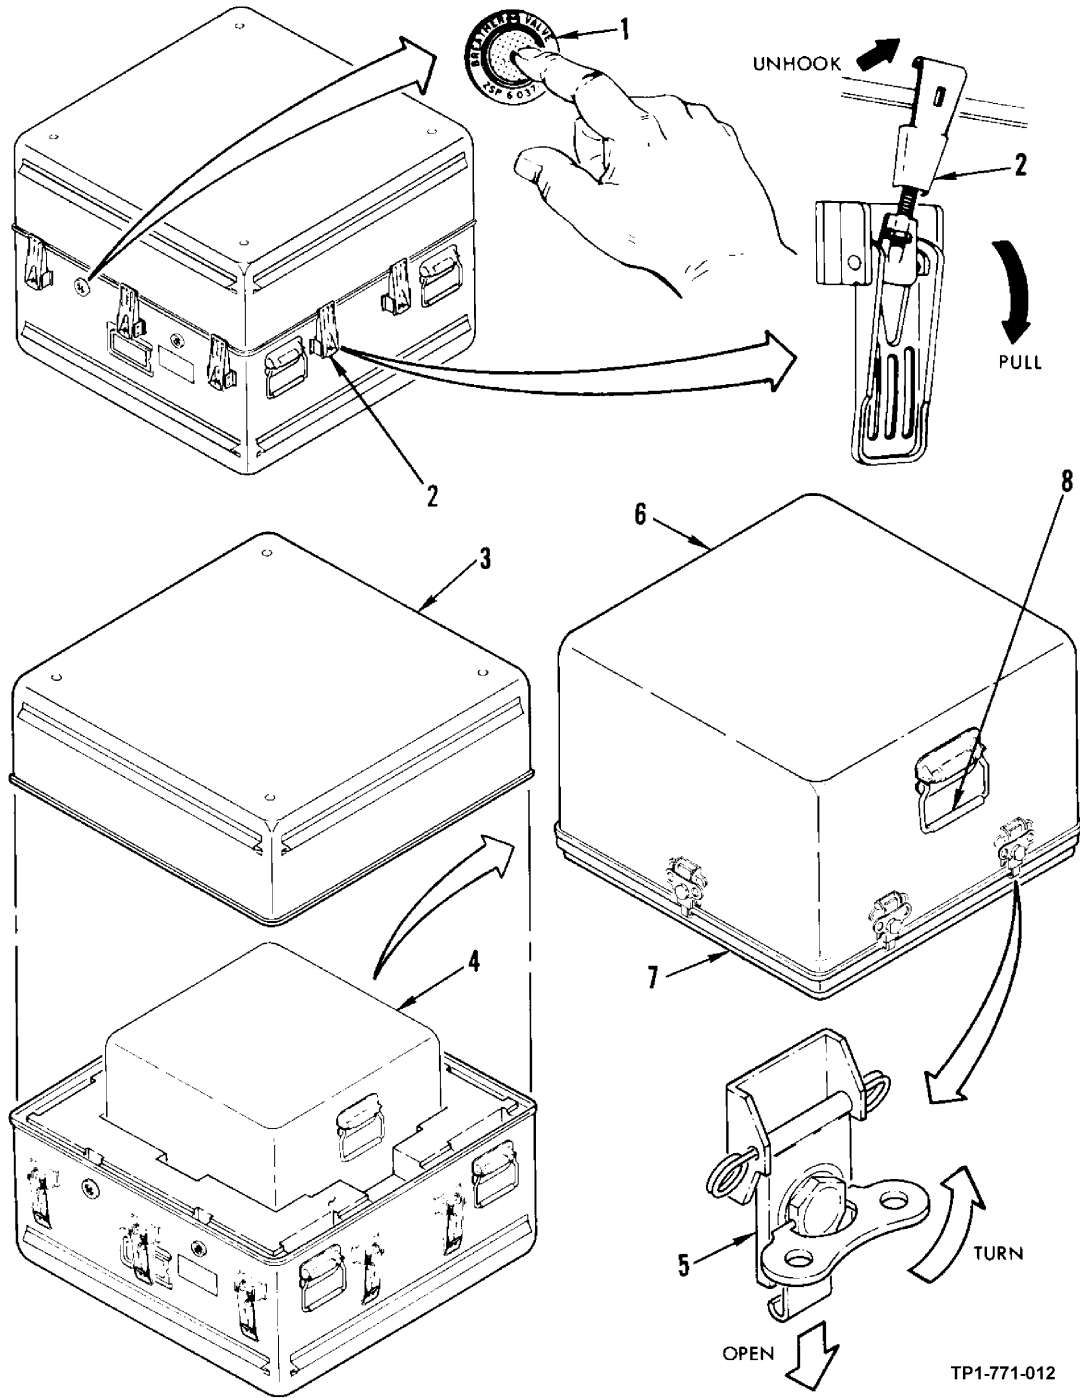

Figure 2-7. Inner Case Removal From Shipping and Storage Container
- (1) Remove inner case assembly from shipping and storage container as follows:
- (a) Press pressure reliefs (1, figure 2-7) on container.
- (b) Release and unhook container latches (2).
- (c) Remove container cover (3) and set aside on clean dry area.
- (d) Remove case assembly (4) from container and place on workbench.
- (2) Release and disengage latches (5) securing case assembly (top cover) (6) to base assembly (7).
- (3) Grasp handles (8) and lift case clear of base assembly. Place case assembly on clean dry surface.